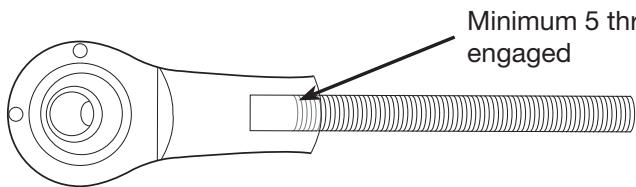

fig. 25
- Loosen if needed in order to extend to reach the lower mounting point. If loosening the linkage to extend it is required, make sure to have at least 5 threads of engagement on both ends (fig. 25).